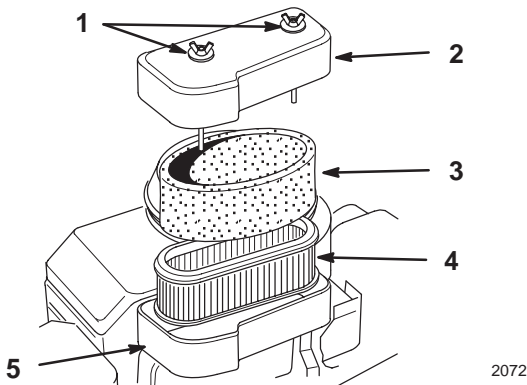

Figure 22
2. Clean around the air cleaner to prevent dirt from getting into the engine and causing damage. Unscrew the cover nuts and remove the air cleaner cover (Fig. 22).
3. Remove the air cleaner assembly (Fig. 22).
4. Carefully slide the foam element off the paper element (Fig. 22).
1. Carefully slide the foam element onto the paper air cleaner element (Fig. 22).
2. Place the air cleaner assembly onto the air cleaner base (Fig. 22).
3. Install the air cleaner cover and secure with cover nuts (Fig. 22).